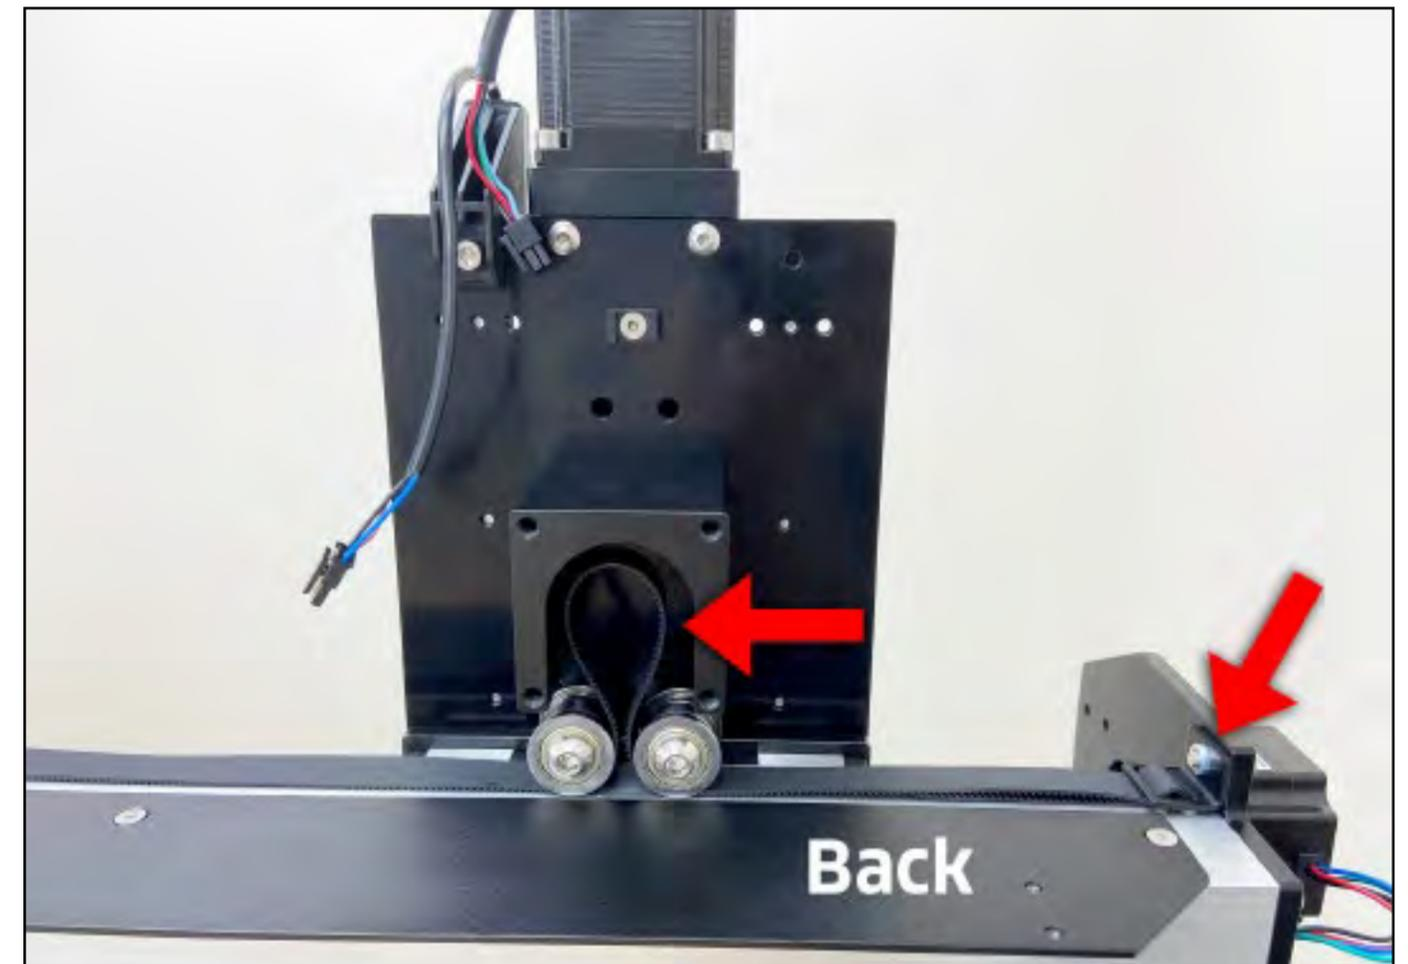

Figure 5-4
1. Attach one end of the belt to one end of the X-Axis gantry, threading about 3 inches of belt through the belt clip. (Refer back to **Steps 4.3** and **4.4**.) See **Fig. 5-4**.
3. Use a small hex key to pull a large loop of belt up between the two idlers and into the motor housing. See **Fig. 5-4**.